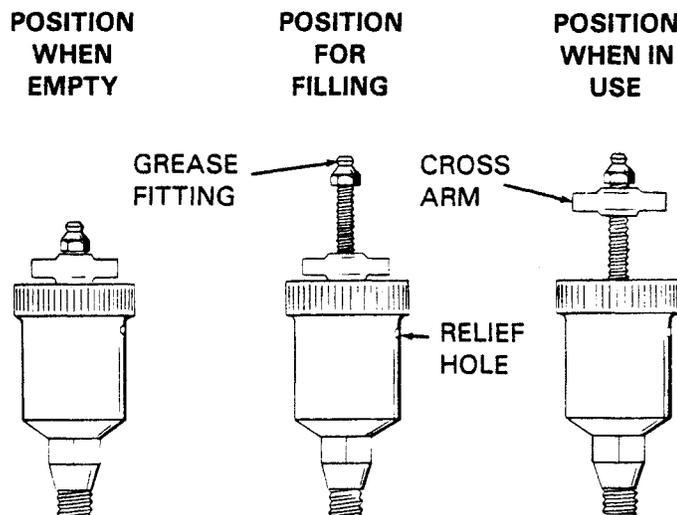

Figure 3. Automatic Lubricating Grease Cup
Before removing the seal assembly, turn the cross arm on the seal grease cup (15) clockwise until it rests against the cover (see figure 3). This will prevent the grease in the cup from escaping after the seal is removed.
Before starting the pump, fill the seal grease cup through the grease fitting with a good grade of No. 2 pressure gun grease until grease escapes from the relief hole. Turn the grease cup arm counterclockwise until it is at the top of the stem; this will release the spring to apply grease to the seal (see figure 3).